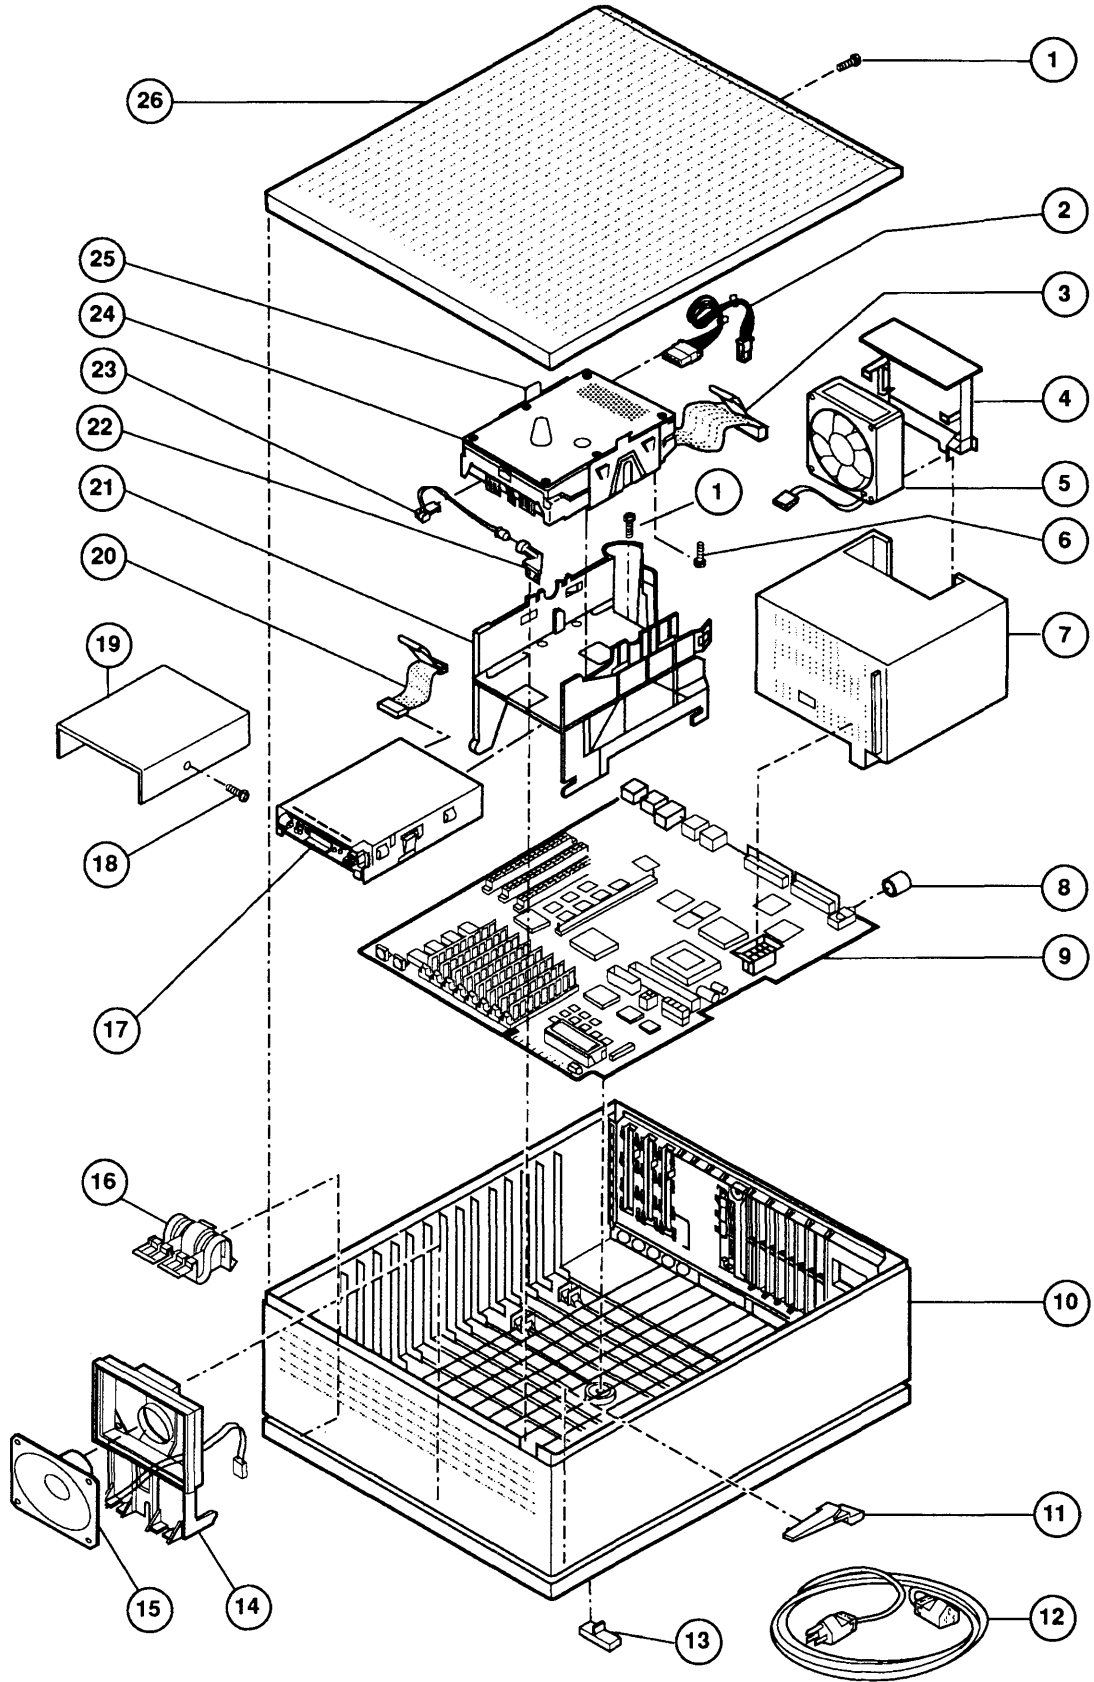

Figure 1 Macintosh IIcx – Exploded View
IPL.3	Macintosh IIcx – Exploded View (Figure 1)
□ MACINTOSH IIcx – EXPLODED VIEW (Figure 1)